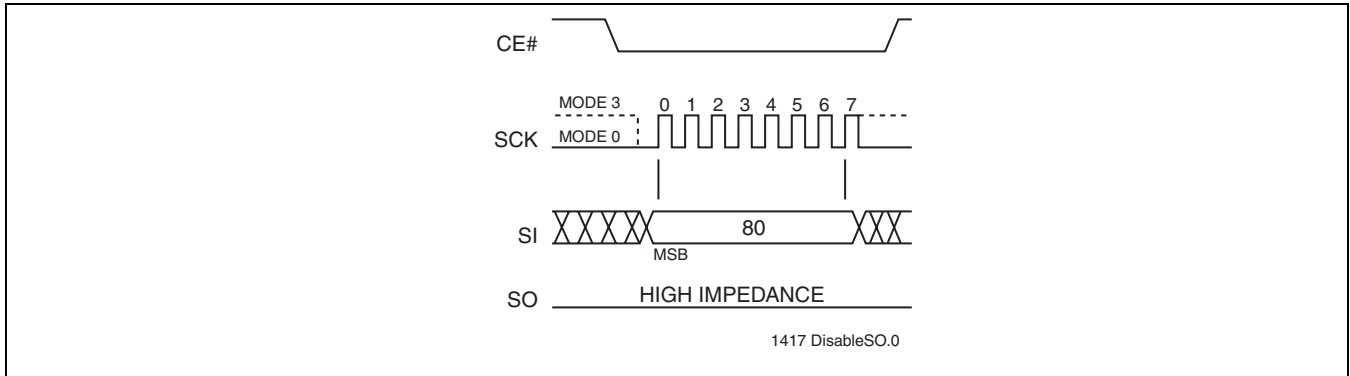

FIGURE 9: Disable SO as Hardware RY/BY# during AAI Programming
The 8-bit command, 80H, disables the Serial Output (SO) pin to output busy status during AAI-Word-program operation and return SO pin to output Software Status Register data during AAI Word programming. (see Figure 9)